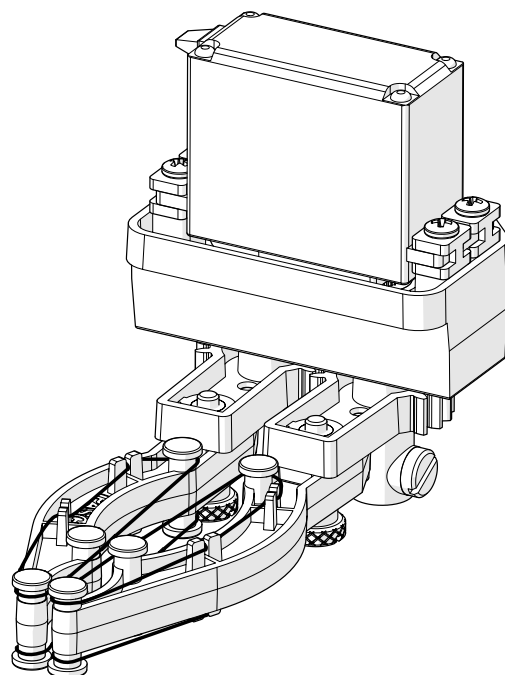

Figure 3. Connecting the Servo Motor to the Motor Mount.
- With the gripper fingers touching as shown in Figure 3, attach the spline of the Servo Motor to the base of one of the shaft spline adapters.
- Insert four 4-40 screws into the threaded holes in the Motor Mount so that they pass through the grommets, as shown in Figure 3. Tighten to secure the Servo Motor to the Motor Mount.